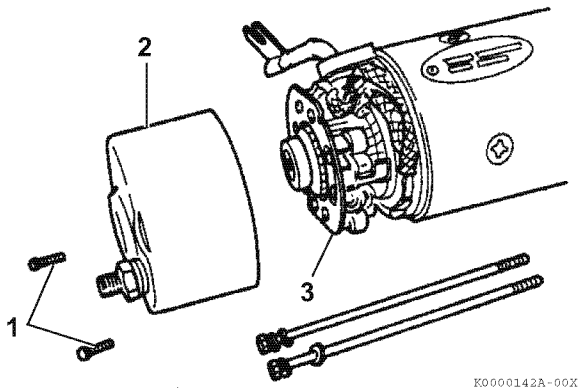

Figure 10-32
11. Carefully install the brush holder (Figure 10-32, (3)) assembly.
12. Install the rear cover (Figure 10-32, (2)) and secure with two screws (Figure 10-32, (1)).